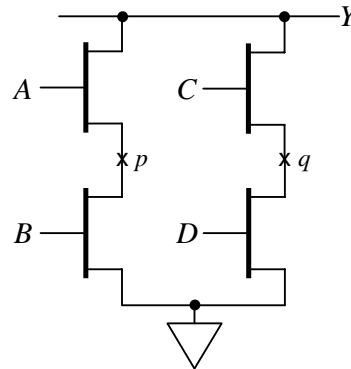

Figure 3: Pull-Down Network
- b. For the pull-down network in **Figure 3** find: